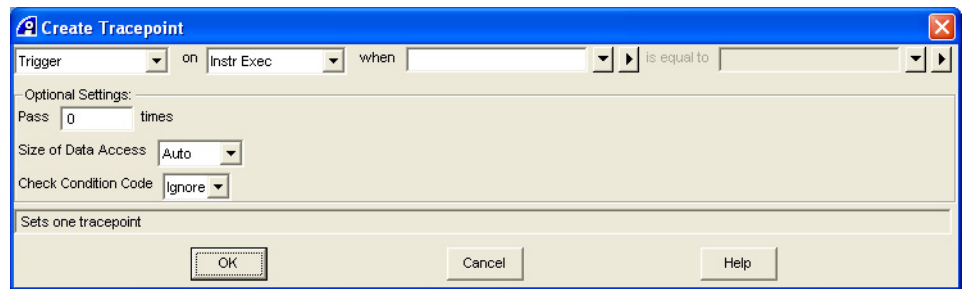

Figure 10-80 Create Tracepoint dialog box
- a. Select **Debug** → **Tracepoints** → **Create Tracepoint...** from the Code window main menu to open the Create Tracepoint dialog box. Figure 10-80 shows an example: